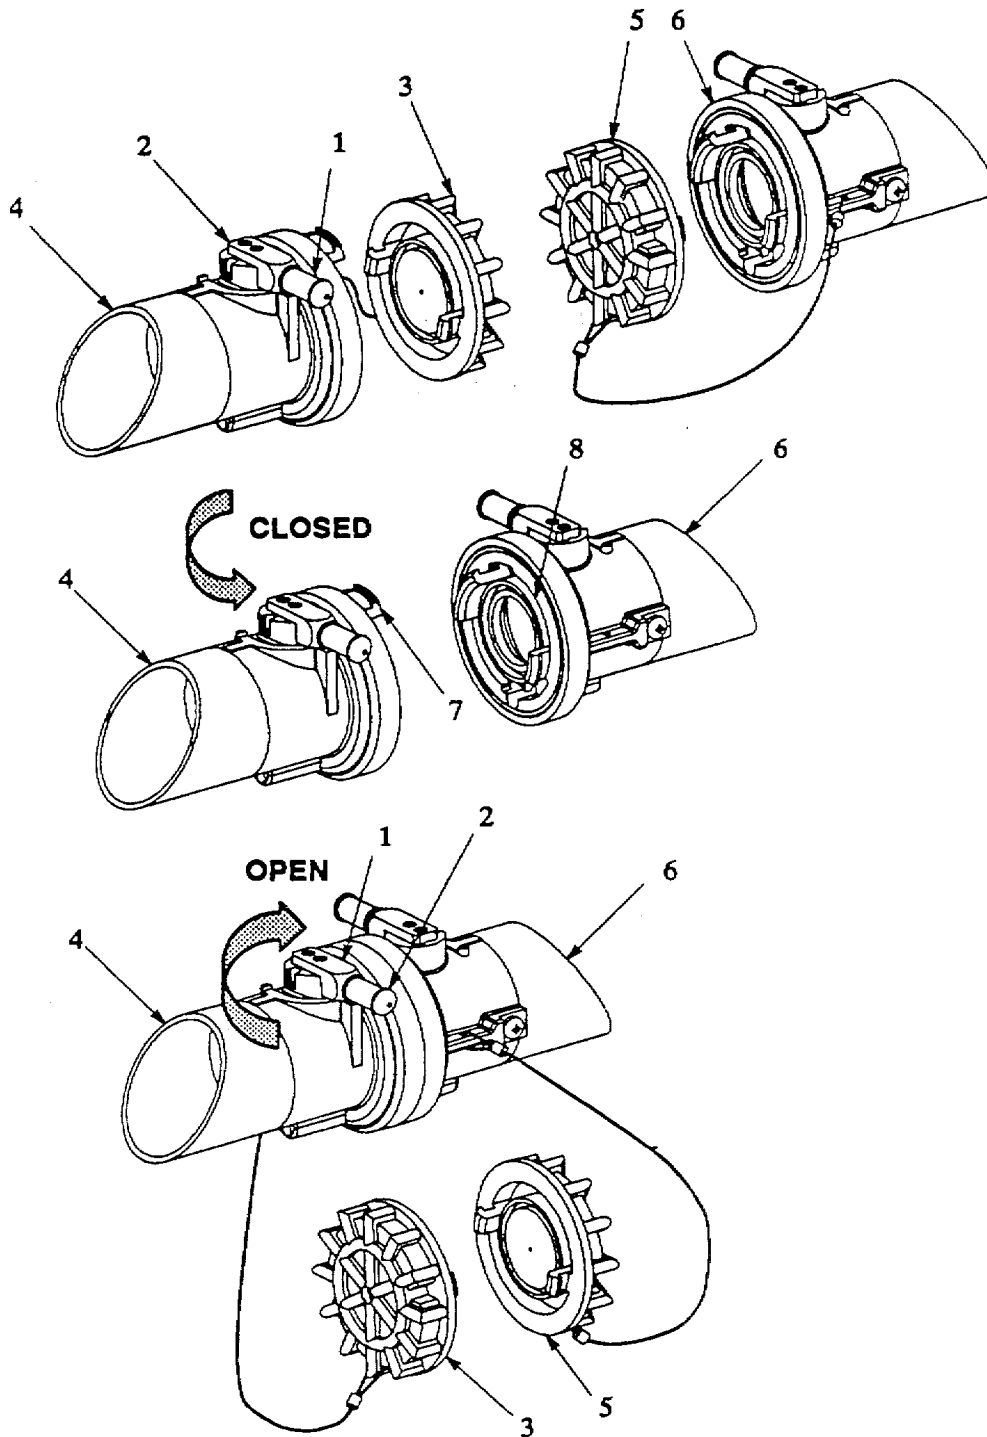

Figure 2-8. Valved Dry Break Coupling Assembly
- e. Valved Dry Break Coupling Connection. Refer to figure 2-8.